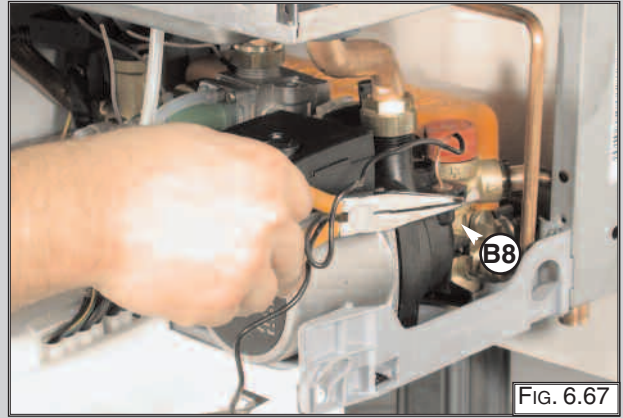

FIG. 6.67
1. Remove the U-clip "B8" (FIG. 6.67)